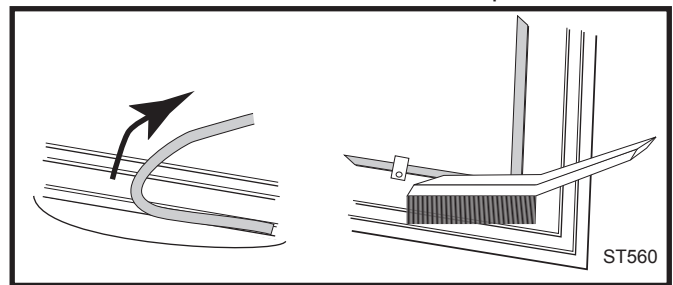

Fig. 37 Remove gasket, then clean channel with wire brush.
- Remove the existing gasket by grasping an end and pulling firmly. (Fig. 37)